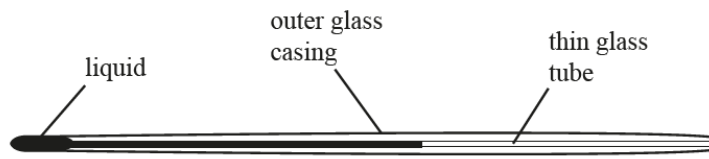

Fig. 1
- (c) A thermometer is made using liquid sealed into a thin glass tube inside an outer glass case, as shown in Fig. 1.